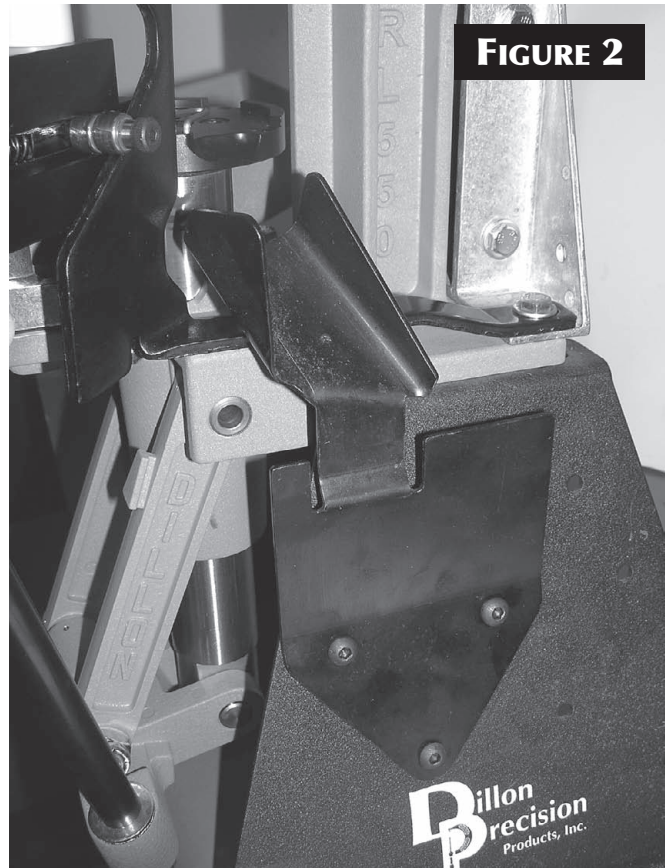
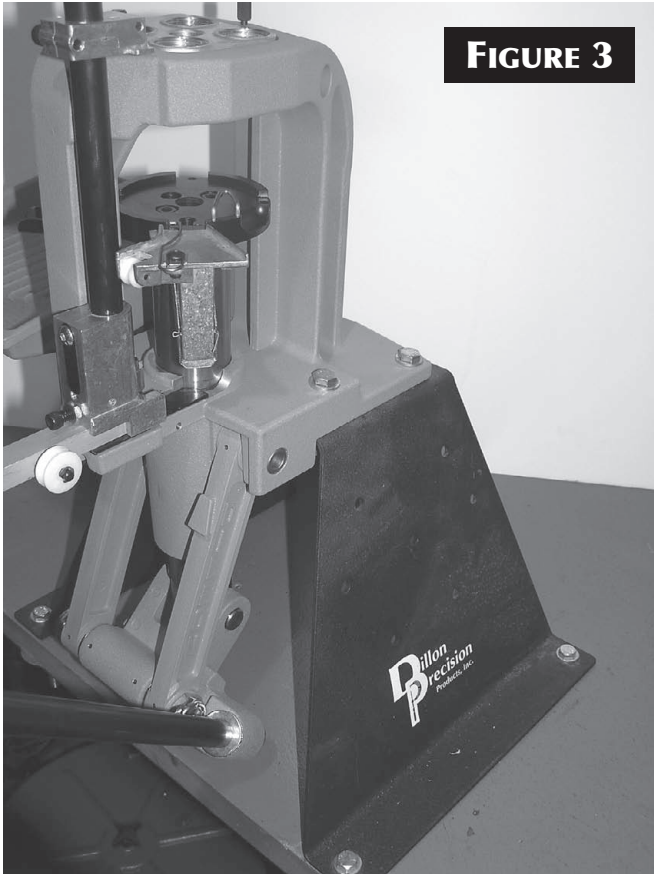

FIGURE 2
FIGURE 3
3. Next, remove the cartridge chute [FIGURE 2] (applicable for machines with strong mount only), shellplate, index ball, spring and toolhead [FIGURE 3] from your machine.